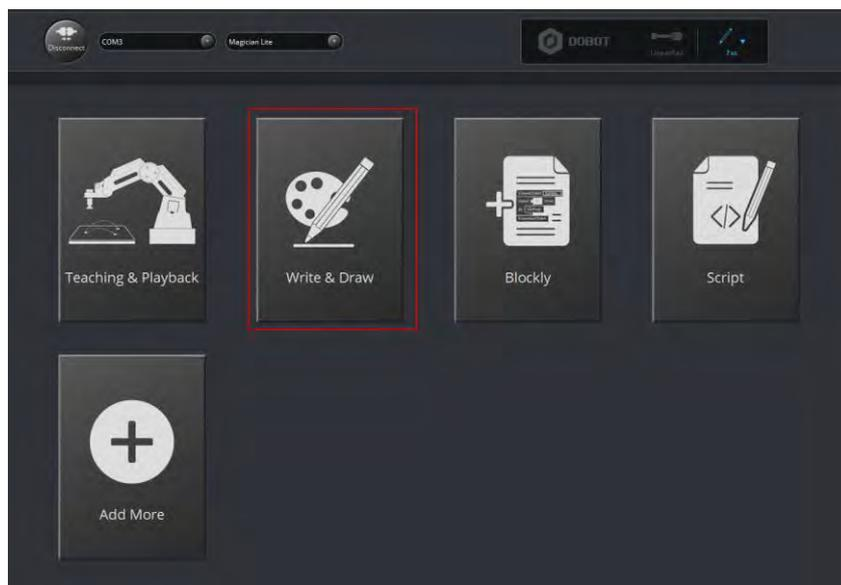

Figure 5.40 Click Write &amp; Draw
**Step 1** Click **Write & Draw** on the **DobotStudio** page, as shown in Figure 5.40.